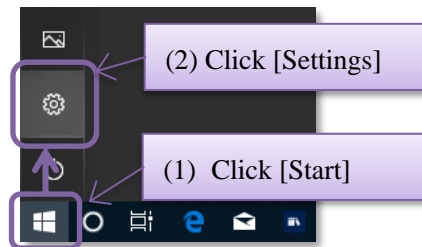

Figure 7.11 Open settings
- (1) Open “setup” window by choosing “Settings” from “Start” menu. (Figure 7.11)